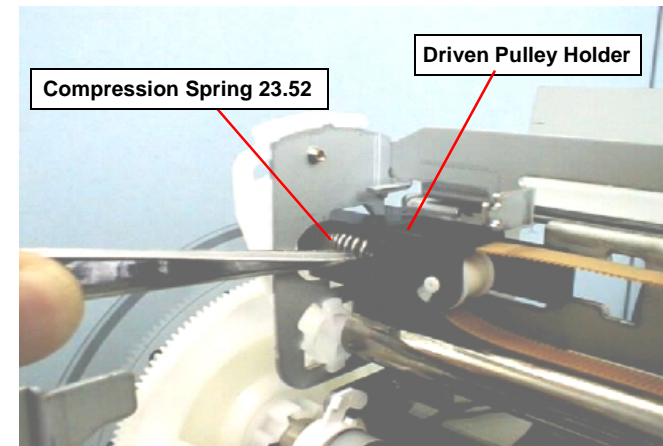

Figure 4-36. Taking out Compression Spring 23.52
- 4) Take the Compression Spring 23.52 out of the Driven Pulley Holder with tweezers. Refer to Figure 4-36.